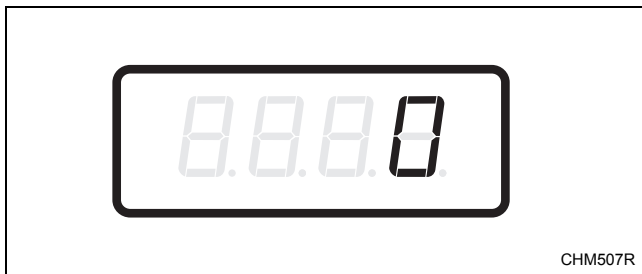

Figure 8
4. When “AtS3” appears in the display, press the START (enter) keypad. There are five digits in the Vend Price #3. The fifth digit will appear in the display and will flash one second on, one second off. Refer to *Figure 8*.